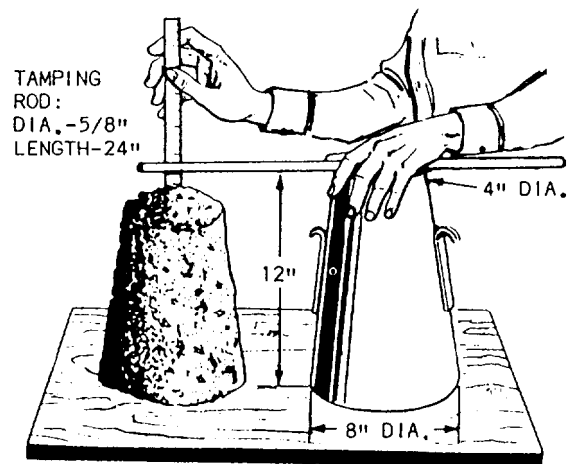

Figure 7-3.-Measurement of slumps.
The slump test is used to measure the consistency of a concrete mix. The test is normally performed by an Engineering Aid (EA) and is made by using a slump cone. The cone is 12 inches high with an 8-inch-diameter base and a 4-inch-diameter top (fig. 7-3).
If the cone is overfilled, the excess concrete is made flush with the top of the cone with a straightedge. The cone is raised from the concrete by raising the cone carefully in a vertical direction. The slump is determined by measuring the difference between the height of the cone and the height of the concrete specimen (fig. 7-3). The slump is recorded in inches on the quality control report.